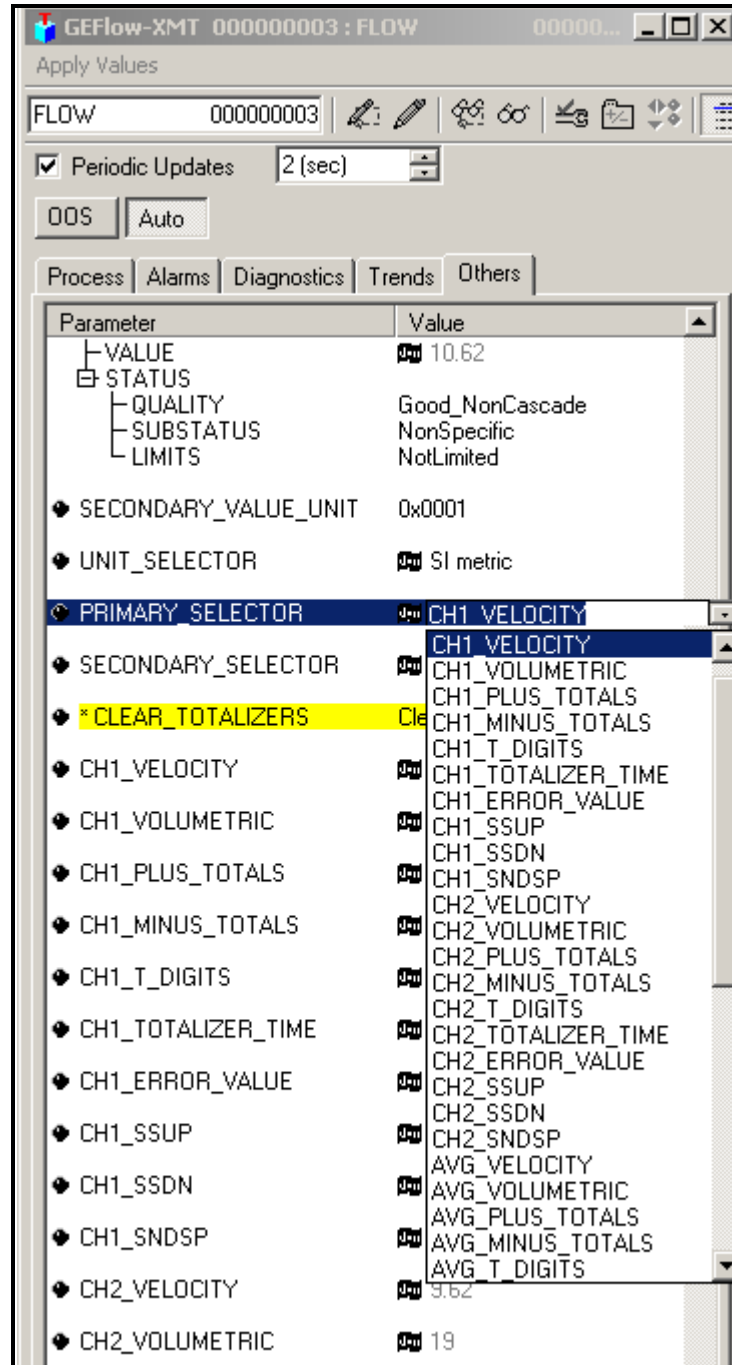

Figure 38: Primary Selector Drop Down List
2. Select the **Others** tab and open the drop down list for the PRIMARY_SELECTOR and SECONDARY_SELECTOR (refer to Figure 38 on page 41).
3. Choose the unit from the list (see Figure 38 on page 41).